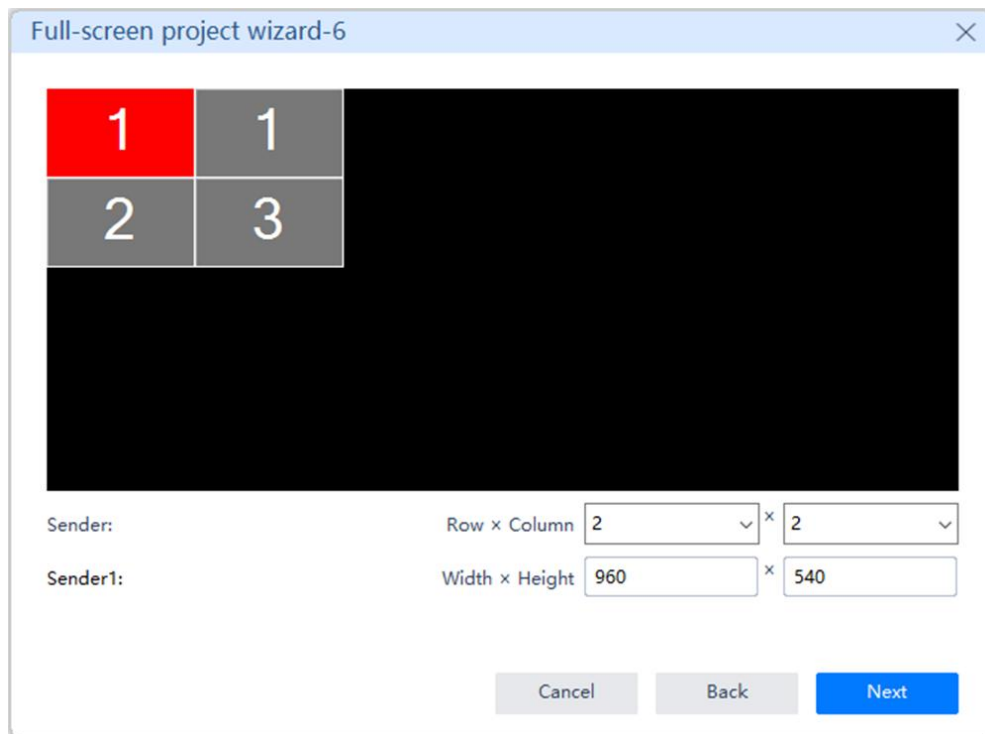

Fig 3-19 Sender layout settings
- When *Calibration Pro* has detected more than 1 sender, you will need to set the sender layout before continuing the wizard-6. See Figure 3-19.
In this step, you should enter the rows and columns of the senders according to their real layout. Click a sender to set its size and position in the load area. You can also exchange the control area and position of two senders by dragging them in this interface. Once you have finished the sender settings, you can click **Next** to move on to the setup of **Margins** and do as described above. See Figure 3-19.